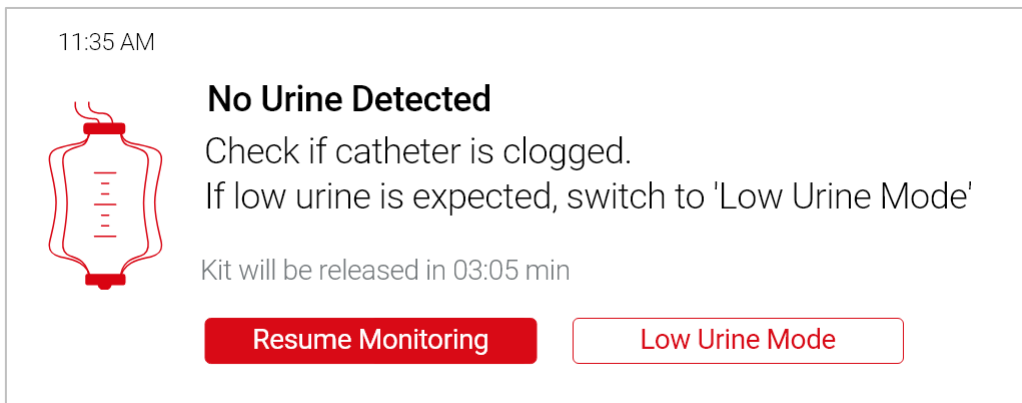

Figure 25 – No Urine Detected Alert
During monitoring, if close to 0 ml were detected by the system over approximately one hour, a 'No Urine Detected' alert will be prompted (see Figure 25). If a catheter clog was excluded and low urine is expected in your patient, you may switch to 'Low Urine Mode':
1. Press the 'Low Urine Mode' button in the alert (Figure 25)